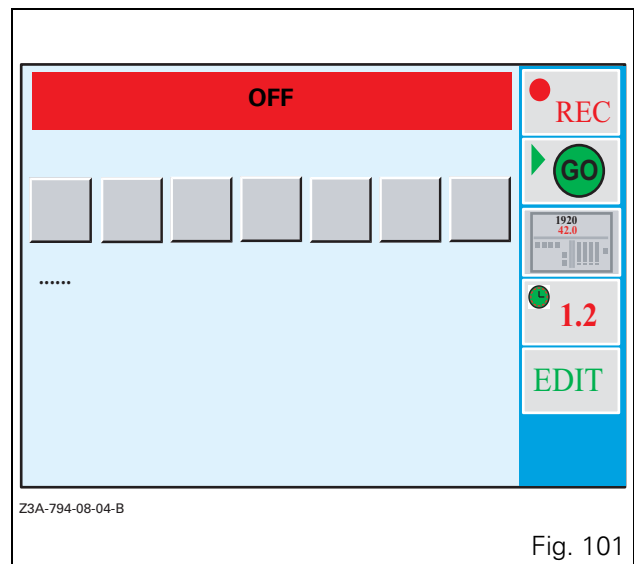
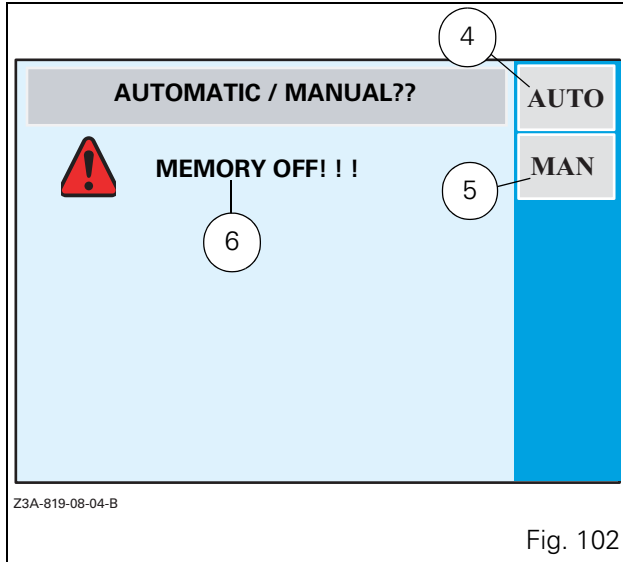

Fig. 101
Fig. 102
- Rotate the encoder (1) to the **HEADLAND** application and press the encoder once the active function is highlighted by red text and a red rectangle around the icon.
- Or press the key <<3 (2). The window (Fig. 101) is displayed.
- To exit an application, press the **ESC** key (3).
To record a sequence, press the key «₁ (REC) when the window (Fig. 101) is open. The recording window (Fig. 102) is displayed.